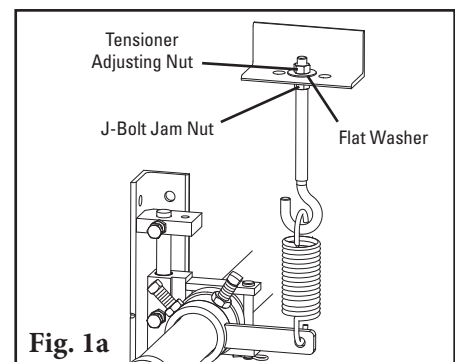

Fig. 1a
**For optional J-Bolt Tensioner:** Loosen both J-bolt jam nuts and remove the tensioner adjusting nuts and flat washers, allowing the pole to rotate against the stop collar and the blade to rotate down (Fig. 1a).